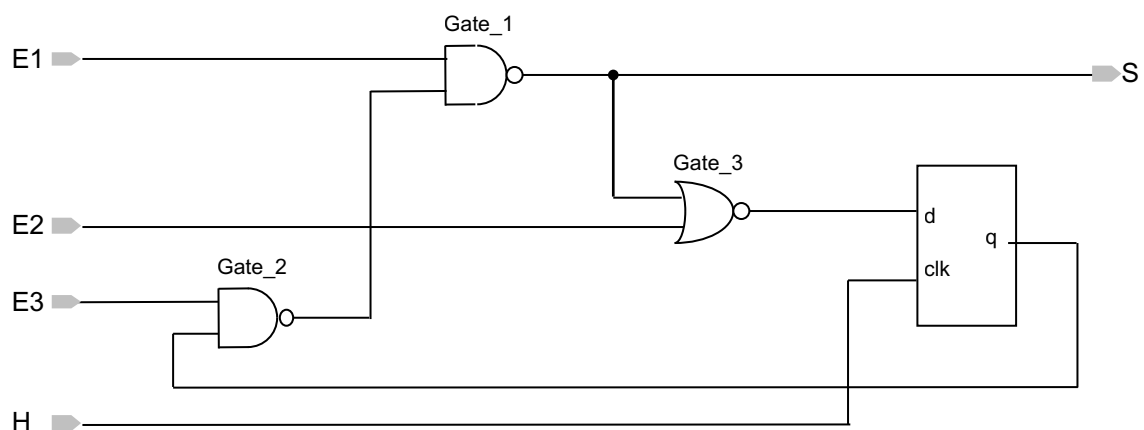

Figure 9: Exercise 3 sequential circuit
Consider as first case study the sequential circuit depicted in Figure 9.
- Create the clock with the **Scan** tab (Figure 9)